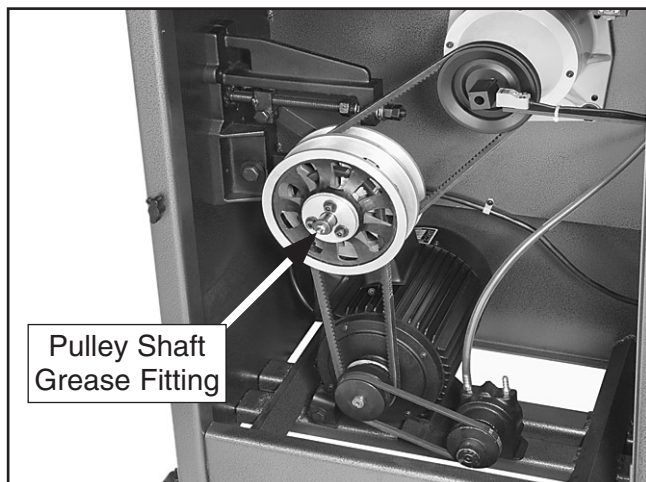

Figure 57. Variable speed pulley grease fitting.
1. Open the motor access door, and use shop rags and mineral spirits to clean away any grease or grime from the pulley shaft grease fitting (see **Figure 57**). This will ensure the new grease is not contaminated.